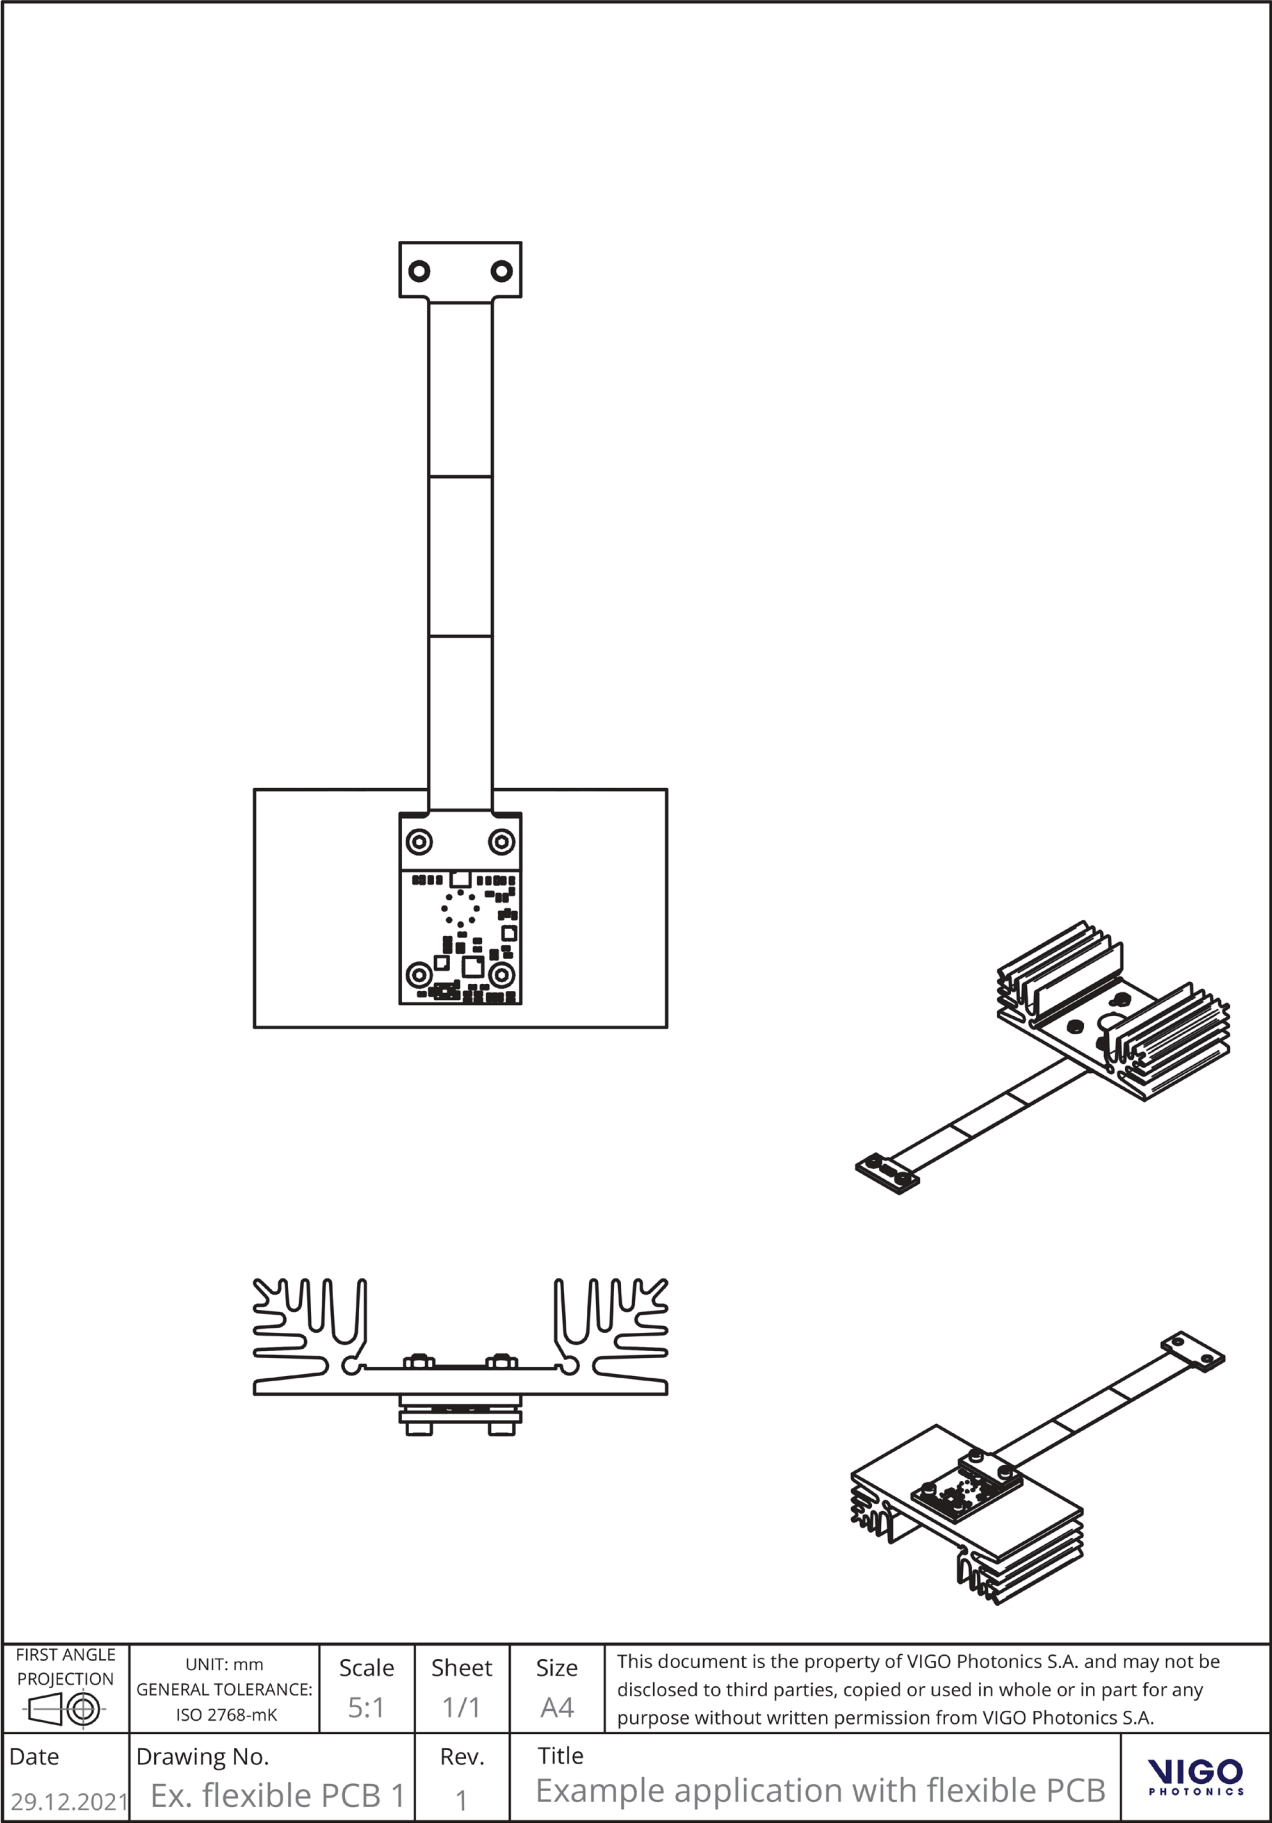

Figure 21. Example application with flexible PCB
Second source of heat are electronic components on the bottom of the PCB. For applications with high cooling power it is recommended to leave bottom side of the module uncovered. Example of such solution is presented in the figure 21.
- Semi-flexible PCB. Receptacle *Amphenol 101R014FB110* has to be placed on the rigid part and the flexible part can be used to connect signals and power supplies to another PCB (figure 21)